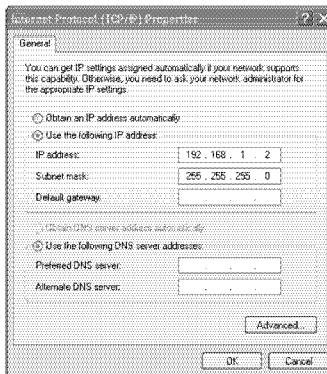

Figure 7: Internet Protocol (TCP/IP) Properties Window
5. Select **Use the following IP Address**1, and fill in the details as shown in Figure 7.